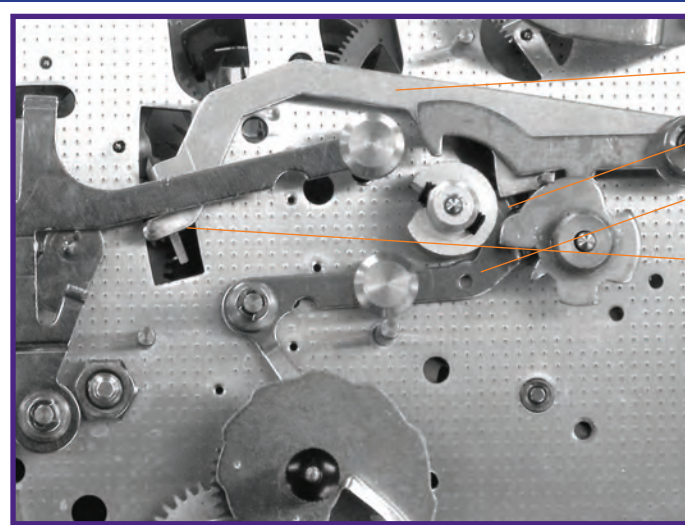

Figure 18
- The pin is not horizontal. Alternatively, the pin on the lifting piece may be bent (Figure 18).